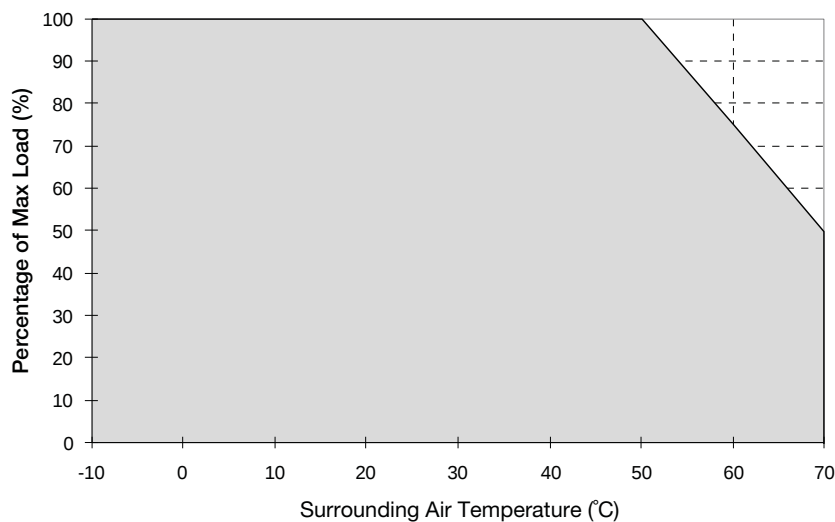

Fig. 1.1 De-rating for Vertical and Horizontal Mounting Orientation
- Power supply components may degrade, or be damaged, when the power supply is continuously used outside the shaded region, refer to the graph shown in Fig. 1.1.